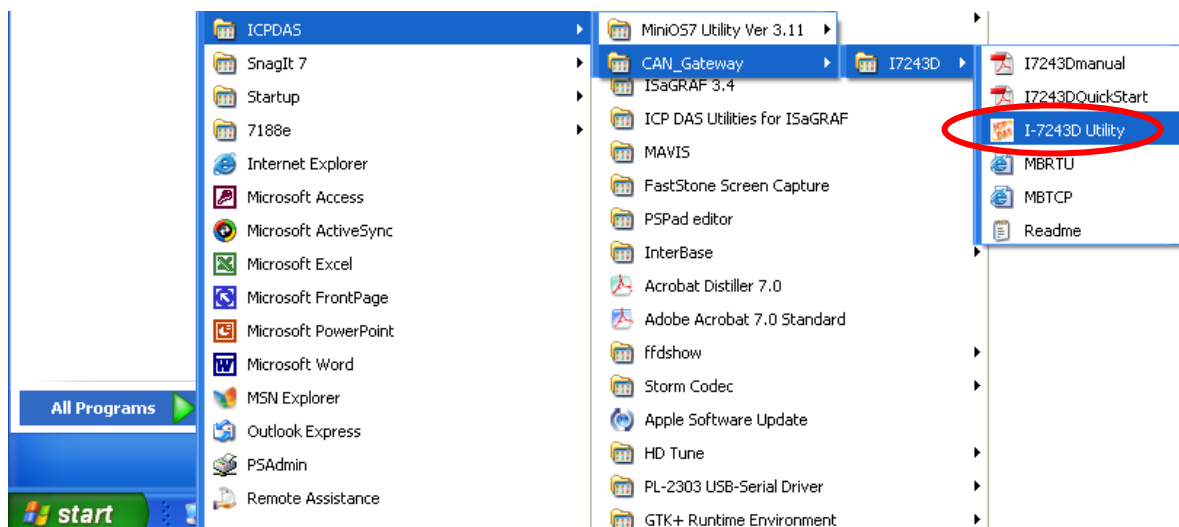

Figure 5-6: You can find “I-7243D Utility” at the “Start” in the task bar
Step 7: After finishing the installation of the I-7243D Utility, users can find it as shown in figure 5-6.